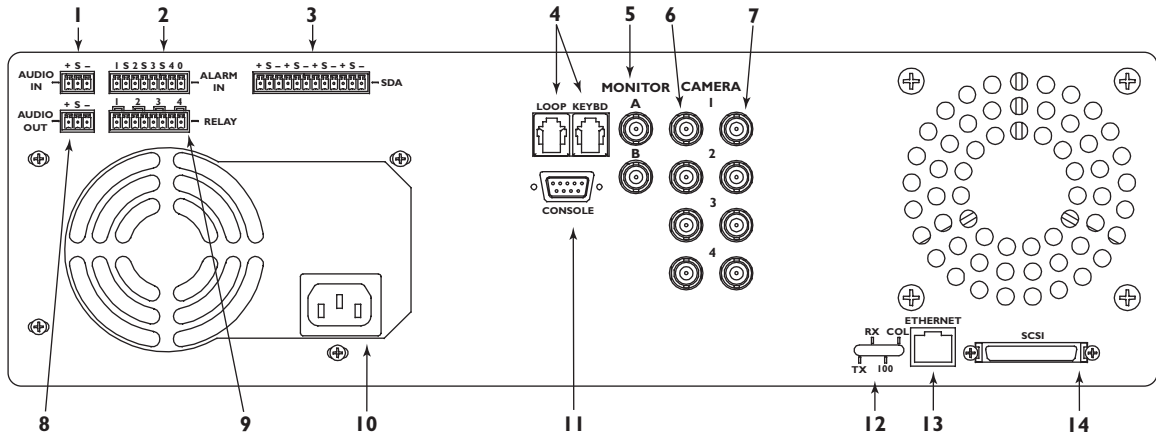

Figure 3.2 Rear Panel of the Hi-Q
3. Connect audio (optional; See **Figure 3.2** for configuration).